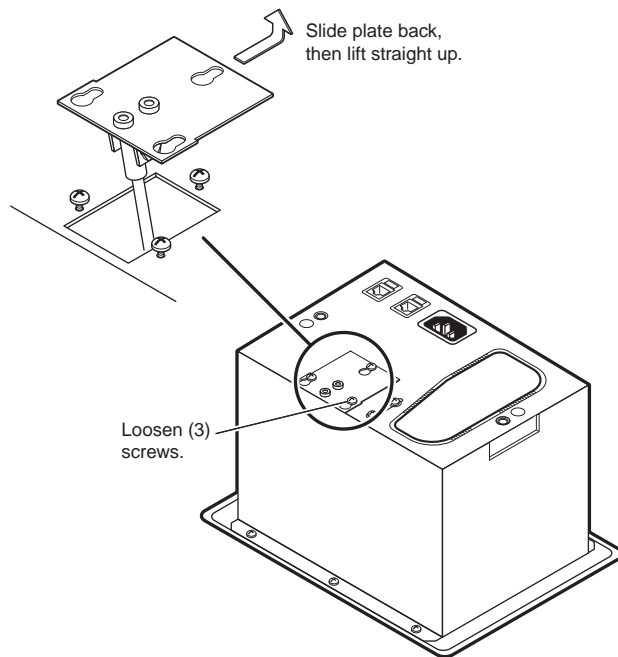

Figure 3-6 — Releasing the gas lift
2. Loosen the three Philips head screws that secure the gas lift mounting plate in place (figure 3-6).
3. Slide the gas lift mounting plate toward the center of the enclosure, releasing the mounting plate from the enclosure (figure 3-6).